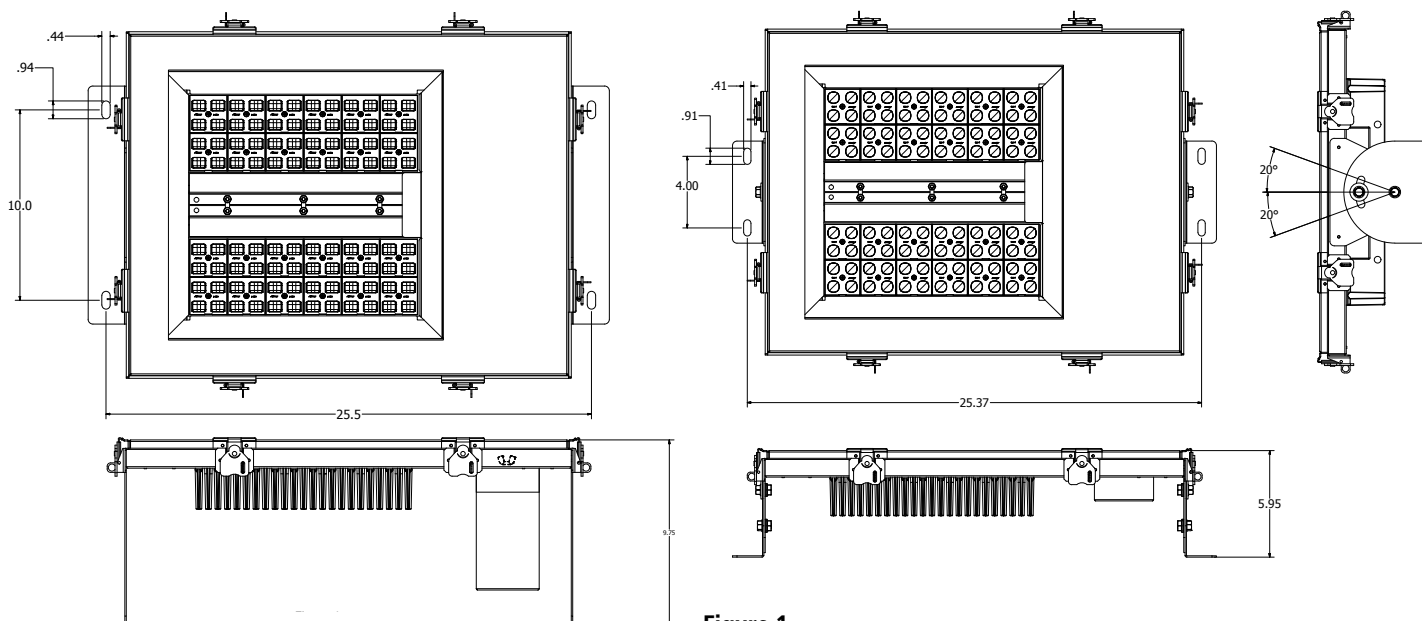

Figure 1
1. Secure fixture to wall or ceiling using user supplied hardware. Slots for 3/8 bolts are provided in the mounting brackets. See Figure 1.